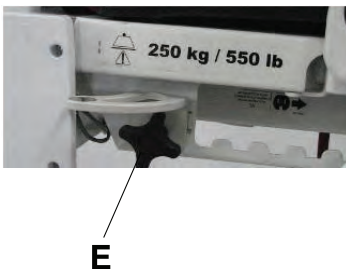

Figure 1-127: Installing the screw knob
2. Install the screw knob onto the bracket back (E) (Figure 1-127 on page 1-109).